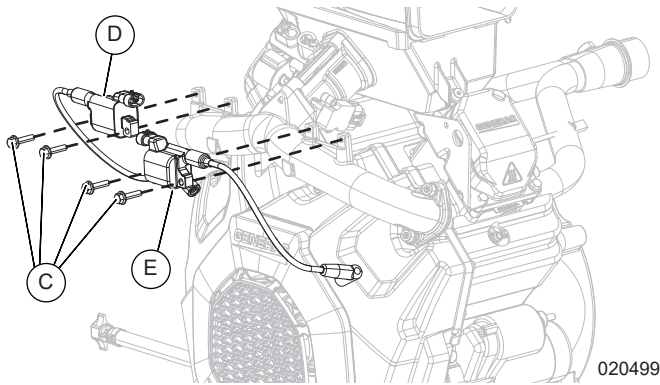

Figure 7-12. Install Ignition Coils
1. See Figure 7-12. Install ignition coils (D, E) for cylinder one and cylinder two with spark plug lead pointing upwards.